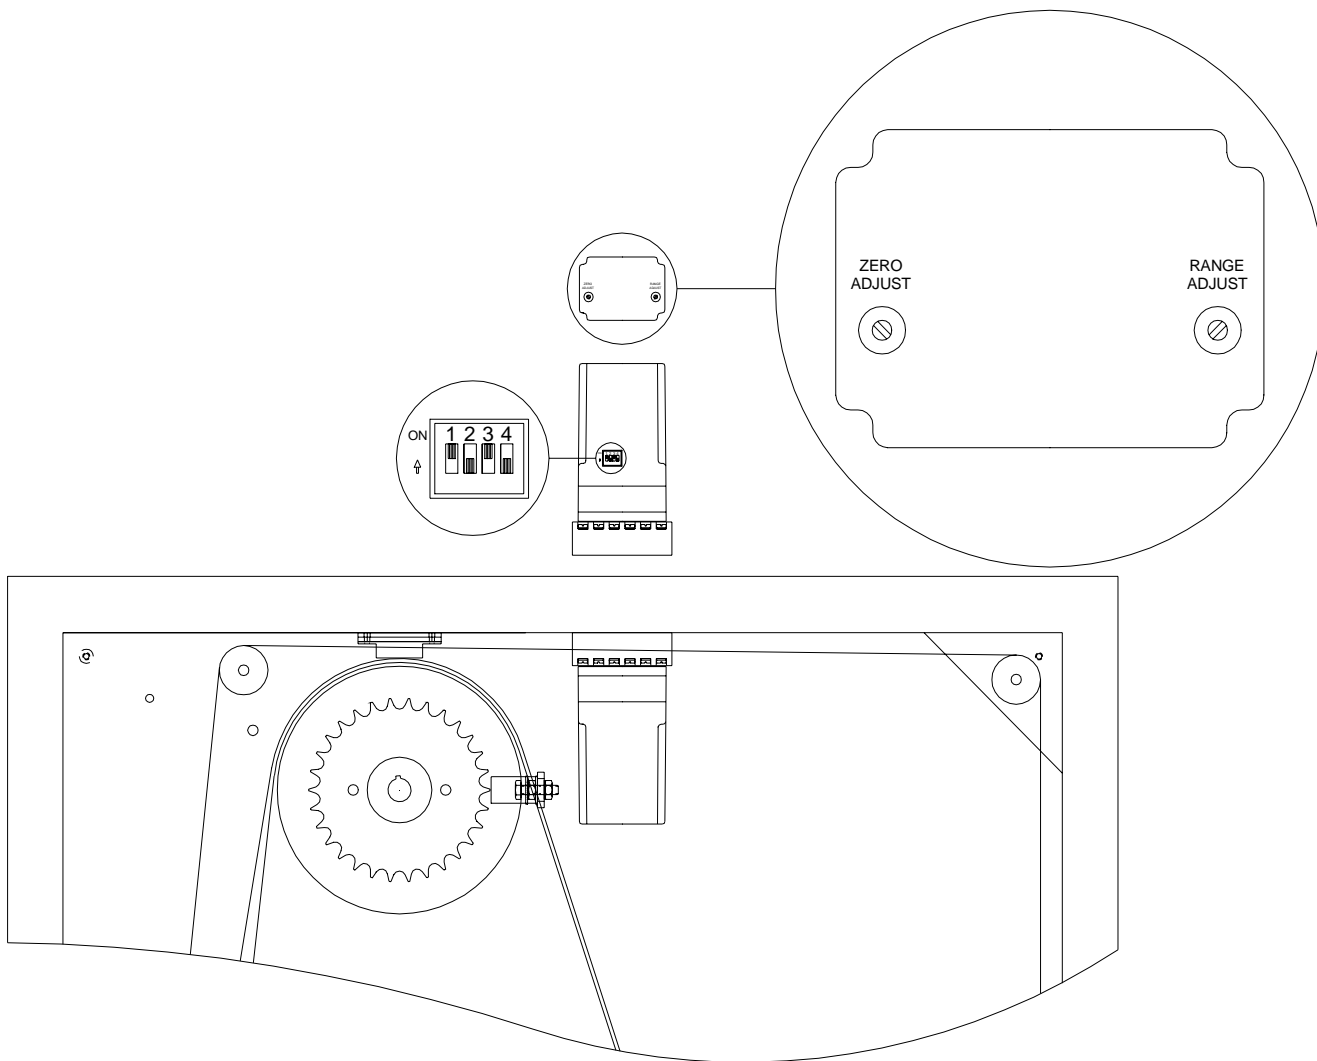

Figure 7-7-d. Adjustments on Frequency/Voltage Converter
- e. If the two stopping points are overlapping, reduce the setting of the LOW SPEED potentiometer R6 on the Relay Interface Board shown in Figure 7.7.c.